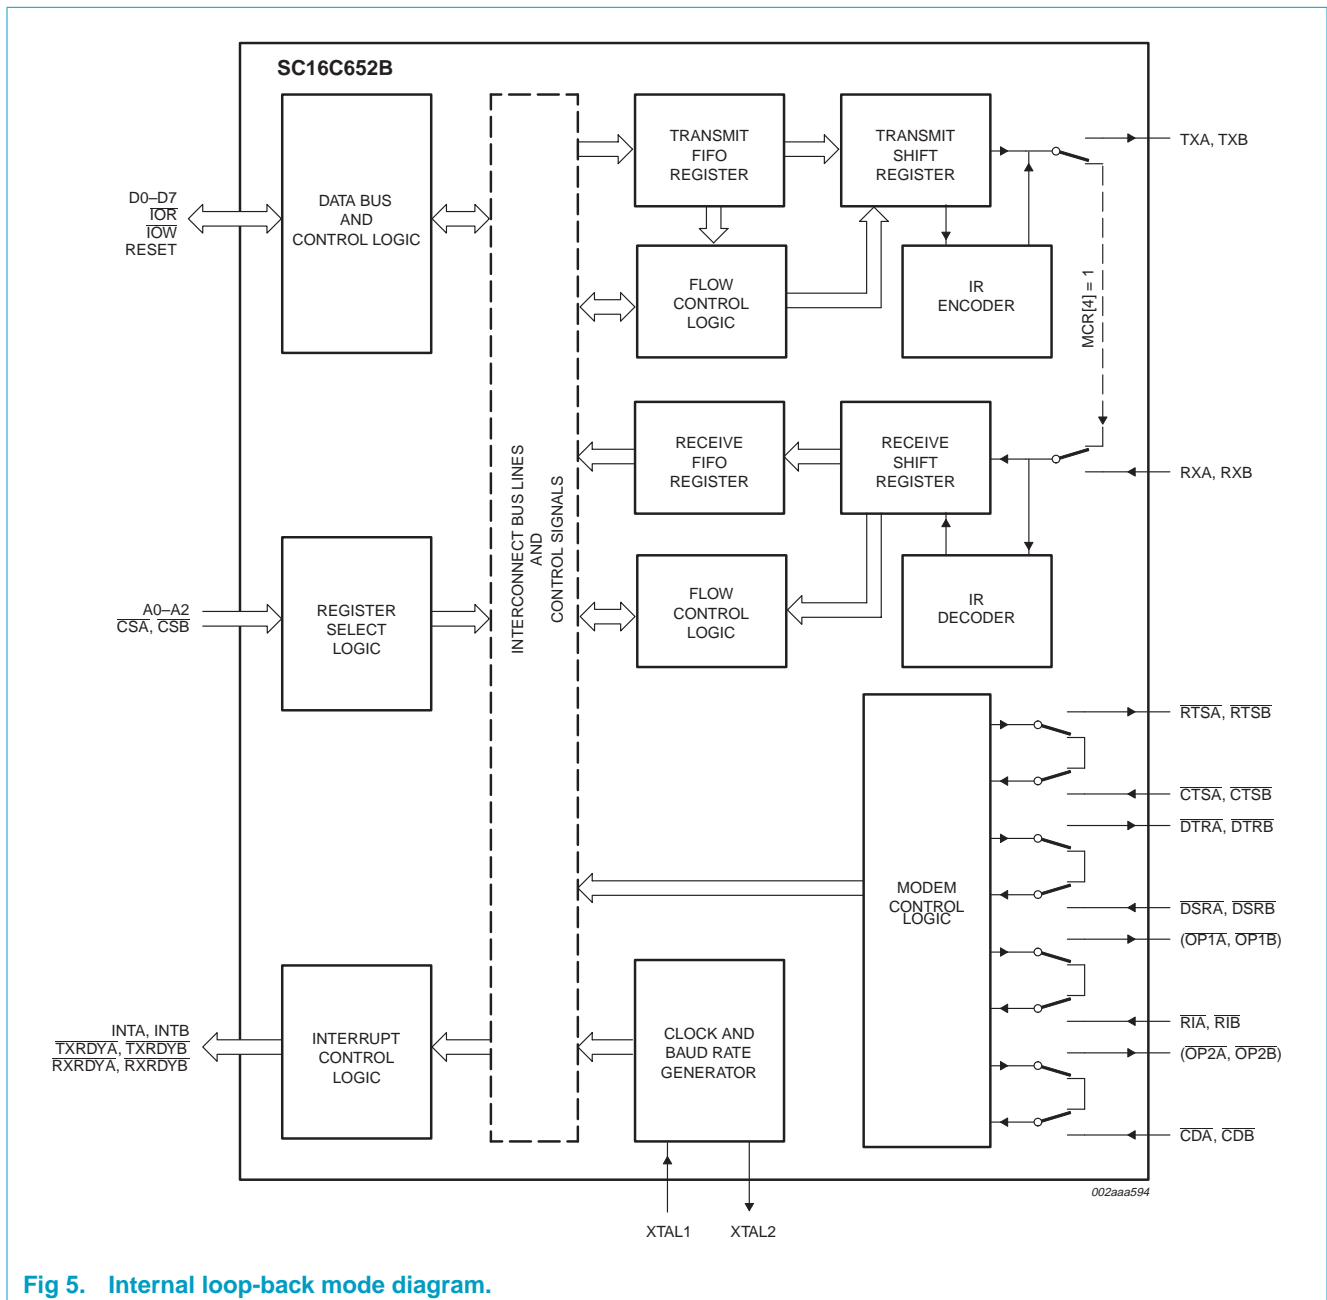

Fig. 5. Internal loop-back mode diagram.
The internal loop-back capability allows on-board diagnostics. In the loop-back mode, the normal modem interface pins are disconnected and reconfigured for loop-back internally (see Figure 5). MCR[0:3] register bits are used for controlling loop-back diagnostic testing. In the loop-back mode, the transmitter output (TX) and the receiver input (RX) are disconnected from their associated interface pins, and instead are connected together internally. The $\overline{\text{CTS}}$, $\overline{\text{DSR}}$, $\overline{\text{CD}}$, and $\overline{\text{RI}}$ are disconnected from